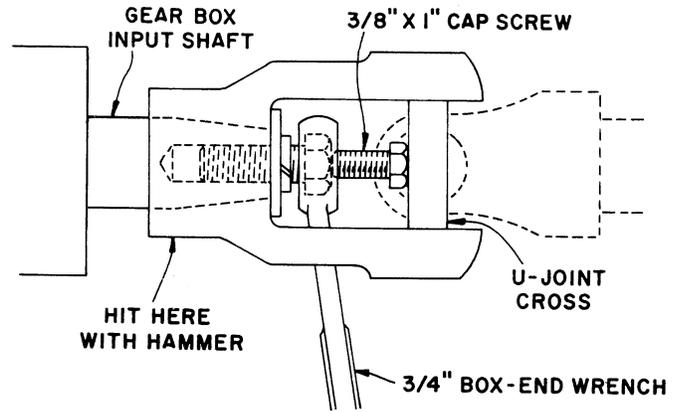

FIGURE 4
13. Remove PTO yoke from gearbox input shaft. Figure 4 shows one method of removing the yoke from the tapered splines of the input shaft. A ⅜" x 1" cap screw acts as a spacer and applies pressure to the "U" joint cross when the center bolt is turned out against the cap screw. Apply pressure to the "U" joint cross and hit the **hub** of the input shaft yoke with a hammer.